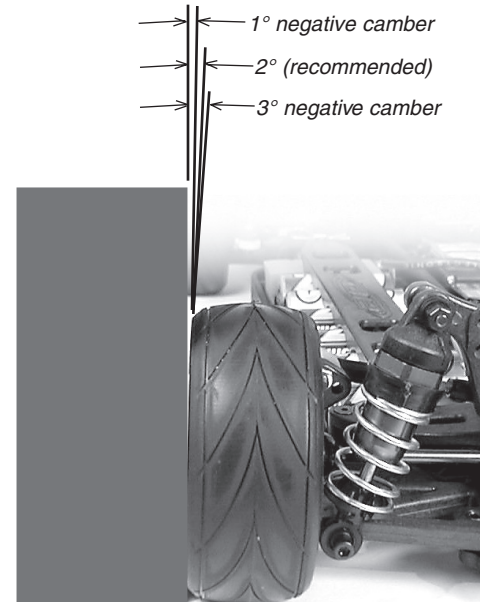

Fig. 2
3. Use your supplied molded turnbuckle wrench to adjust the camber link to 1°, 2° or 3° by either eyeball the gap between the card and the top of the tire (fig. 2), or place a ruler across the top of the tires and measure from the card to the tire.